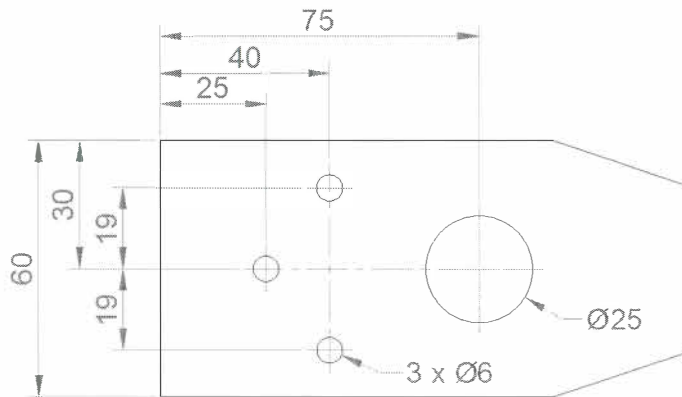

Figure 2–12
In this practice, you will use Object Snap Tracking and Temporary Track Point to place holes on a machine part, as shown in Figure 2–12.
- Repeat this process to place the **6 diameter** circle, **25 units** from the midpoint of the left vertical line, as shown above in Figure 2–12.